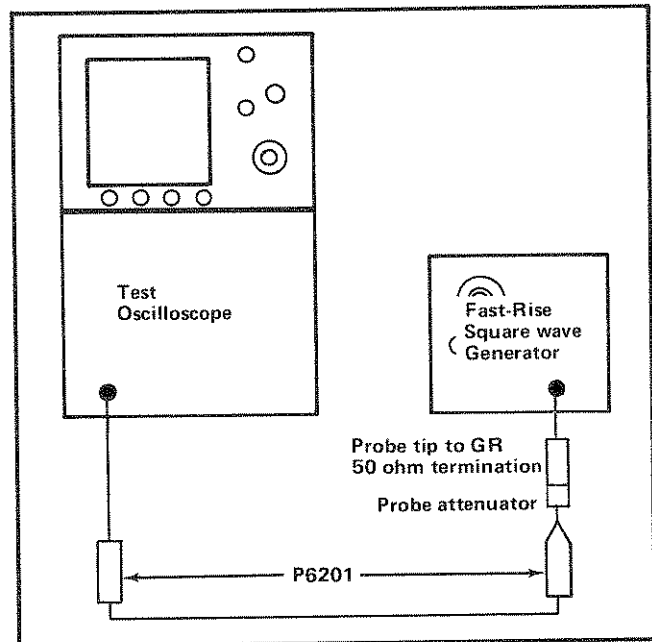

Fig. 5-8. Equipment setup for step 9.
- a. Connect the equipment as shown in Fig. 5-8.